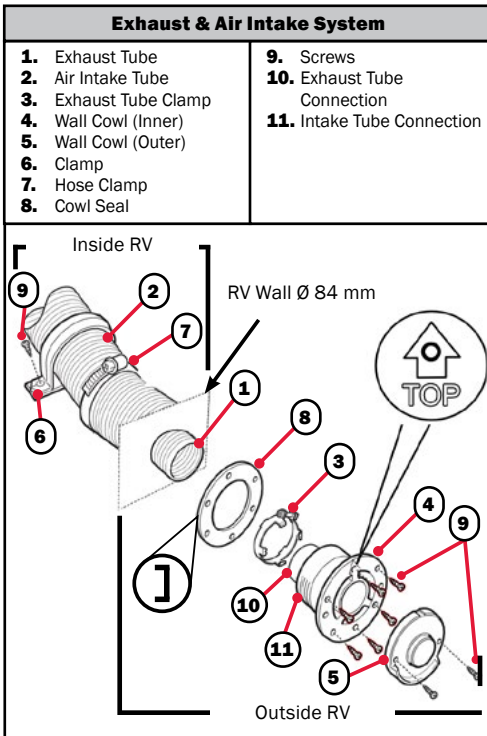

Figure 9
- Drill one hole (Ø 84mm) in the RV wall and seal with the gasket (Figure 9 #8) smooth side facing the exhaust vent and gasket facing the RV wall (Figure 9 #3).